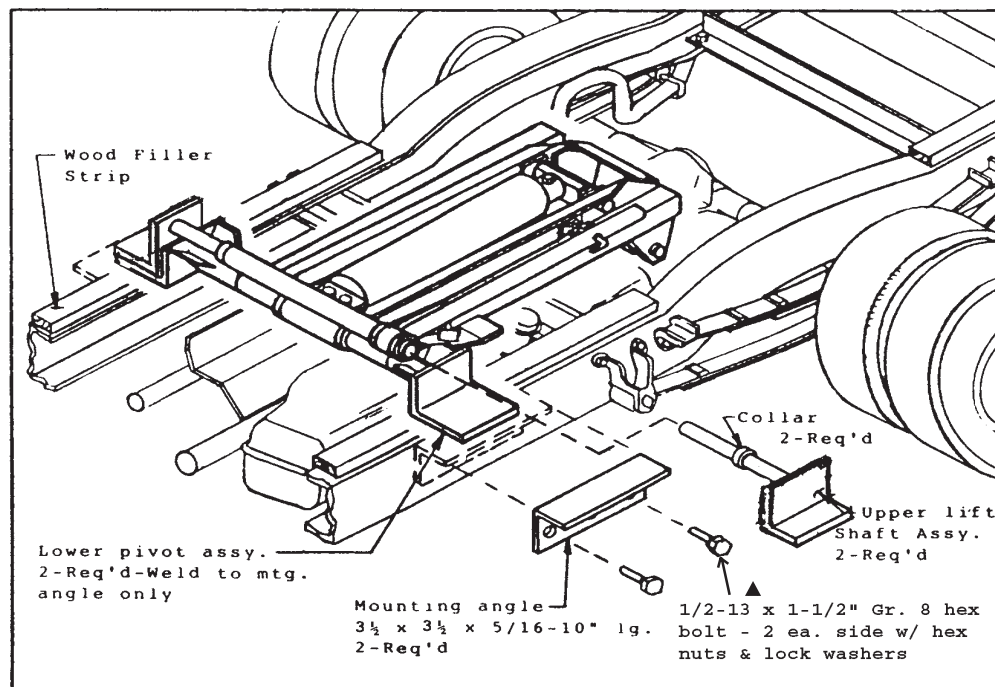

Figure 3 Mounting Angle/Lower Pivot Assembly
4. Locate the hoist on the truck frame, making sure to center and square the hoist to the truck frame. The VC-416/516 hoist is designed to rest on the truck frame as shown in Fig. 3. A section of the hoist extends below the truck frame level, thus the hoist may have to be moved slightly forward or backward to avoid frame crossmembers. The distance between the rear hinge assembly center and hoist dimension. Table "A", figure 1 refers to dump angles associated with the "M" dimension.
5. After the hoist is positioned, place a mounting angle (Fig. 3) under each of the lower pivots and against the truck frame. Clamp securely in place. Drill through the mtg. angle and frame ( $17/32"$ ) and fasten mounting angle with two (2) 1-1/2" hex head grade 8 bolts, lock washers and hex nuts (both sides).
6. With the hoist lower pivot assys. clamped to the mounting angles ( $3-1/2 \times 3-1/2 \times 5/16 - 10"$  lg.), weld the lower pivot assy. to the mounting angles. Position and secure the filler strips (wood or steel) to the truck frame (see fig. 3) The VC416/516 hoist requires at least  $5-3/4"$  clearance above the truck frame.